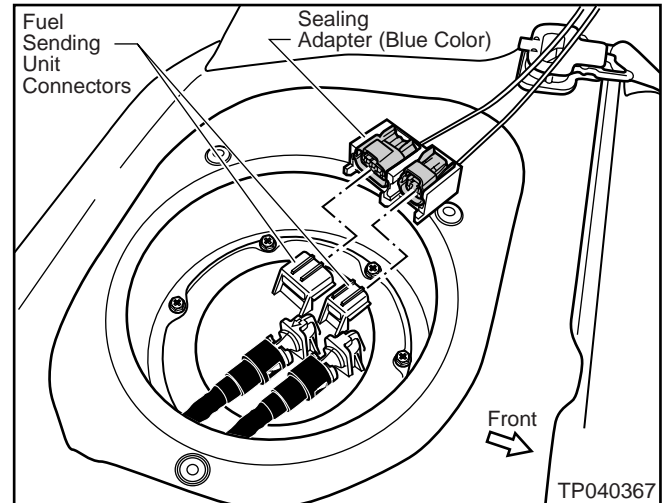

Figure 24
1. Install the Sealing Adapter (blue color adapter) onto the Fuel Sending Unit Connectors until it clicks (locks) in place. See Figure 24.